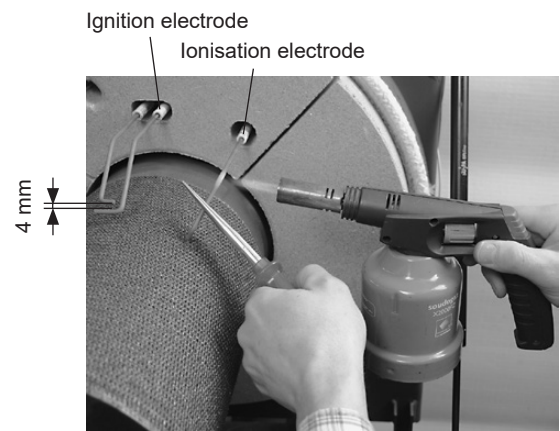
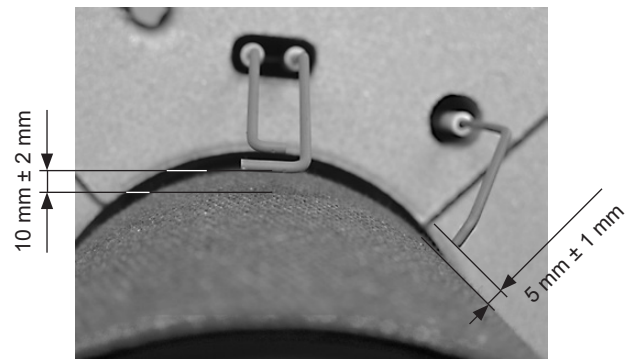

Fig. 53
Fig. 54
- Check all electrode gaps (see Fig. 53 and Fig. 54).
- Heat the electrode at the kink with the blowtorch until it glows red (see Fig. 53).